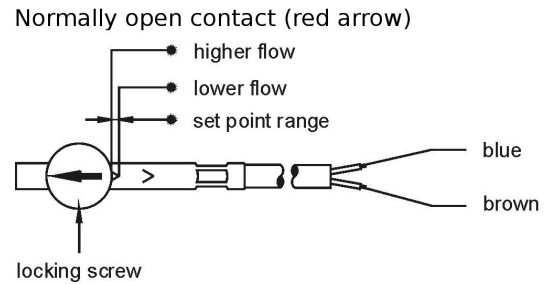
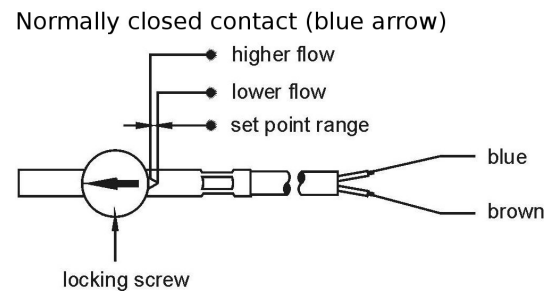

Fig. 20
Fig. 21
- ✚ Subsequently position the switching unit until the red (Fig. 20) or the blue arrow (Fig. 21) are visible at the entry of the switching unit guide for a desired make or break contact respectively (not required for change-over contact).